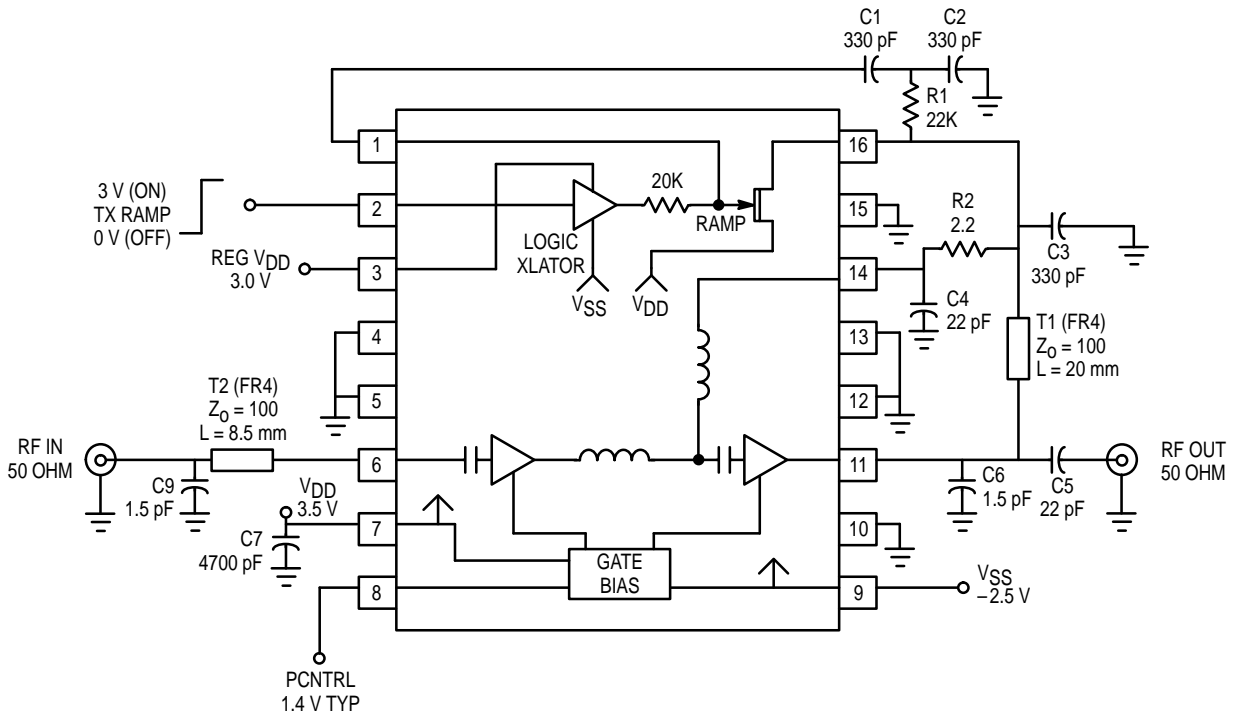

Figure 2. Applications Circuit Details for DECT using Internal Logic Translator
**DECT Application with Internal Logic Translator** (See Figure 2.  $V_{DD} = 3.5\text{ V}$ ,  $REG\ V_{DD} = 3.0\text{ V}$ ,  $T_A = 25^\circ\text{C}$ ,  $V_{SS} = -2.5\text{ V}$ ,  $TX\ RAMP = 3.0\text{ V}$ ,  $PCNTRL$  set for Quiescent  $I_{DD} = 120\text{ mA}$ ,  $P_{IN} = -3.0\text{ dBm}$  @  $1.9\text{ GHz}$  unless otherwise stated.)
As can be seen in Figures 2 and 3, the off-chip matching is straight forward. At frequencies near 1.9 GHz, the input requires 4.7 nH in series and 1.5 pF in shunt. The 4.7 nH series inductance may be implemented with a high-impedance transmission line as shown. The output, being close to 25  $\Omega$ , requires only a shunt 1.5 pF capacitor. Drain voltage for stage 1 is supplied through pin 14 and for stage 2 through pin 11, the RF output. Pin 8, PCNTRL is used to set the quiescent bias point for both stages. While nominal  $I_{DDQ}$  is 120 mA, it can be set as high as 180 mA for better linearity or lower for better efficiency. 120 mA is a good compromise for DECT and PHS. DECT, which employs GMSK constant envelope modulation can use RF amplifiers close to or in saturation without experiencing spectral regrowth of the signal. PHS, on the other hand, employs  $\pi/4$  DQPSK modulation which has some residual AM associated with the encoding. With AM present, RF amplifiers must be backed off from saturation so as not to regrow the filtered sidebands. The MRFIC1806 has plenty of backoff capability for PHS where the MRFIC1807 PA/switch must only produce about +21 dBm. With the 8.0 dB gain of the MRFIC1807, the MRFIC1806 need only produce +13 dBm output so the bias point can be reduced below the 120 mA suggested for DECT.
The on-chip ramp circuit can be used to control the amplifier attack and release time for DECT applications through the use of a few external components as shown in Figure 2. This ramping is required to control the burst signal rise and fall time to avoid adjacent channel interference. At the same time, system specifications require the transmitter to reach full power in a minimum time. For DECT, it has been shown that a rise time of not greater than 2 microseconds will produce acceptable adjacent channel performance. The system requires full power in not greater than 10 microseconds. A good compromise, and the timing implemented in Figure 2, is 7 microseconds.